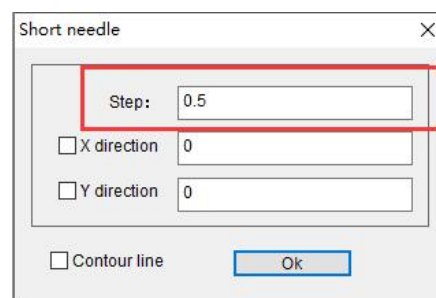
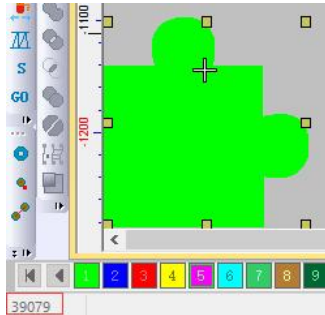

Figure 4
Figure 5
4.Right click on the "Filter Short Stitch" position to set the step size and click OK (Figure 4), then left click on "Filter Short Stitch" (Figure 5).